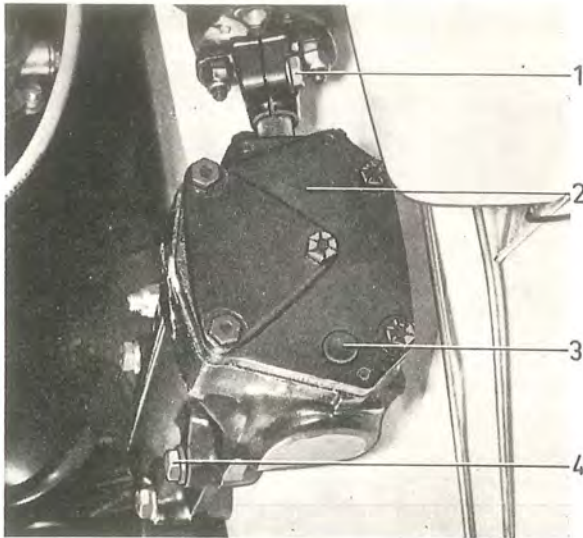

Fig. 6-46. Steering box, mechanical steering
3. Slacken the clamping bolt (1), Fig. 6-46. Remove the attaching bolts (4). Pull the steering box forwards (2).
2. Check that the steering wheel has the position for driving straight forwards. Place the steering box in position and fit it on to the flange. Fit and tighten the attaching bolts (4, Fig. 6-46). Tighten the clamping bolt (1).